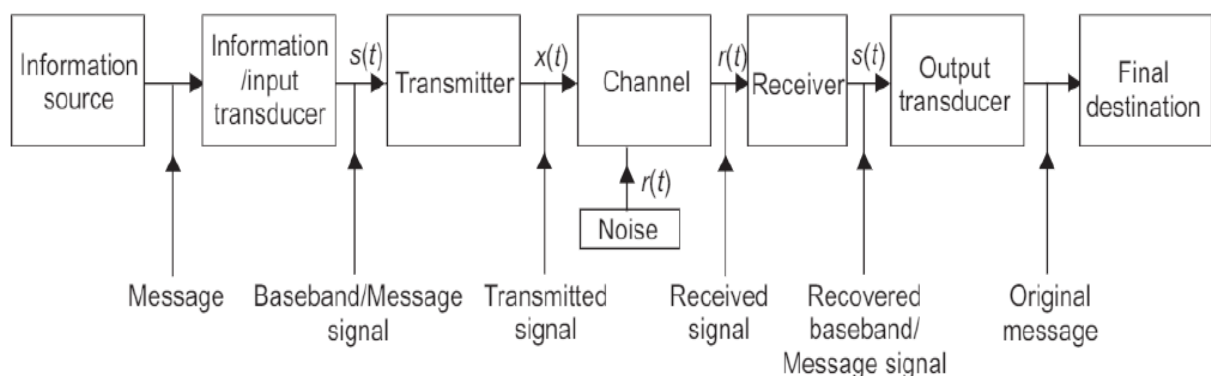

Fig 4.1 Schematic diagram of the most general form of basic communication system.
- Figure 4.1 shows a block schematic diagram of the most general form of basic communication system.